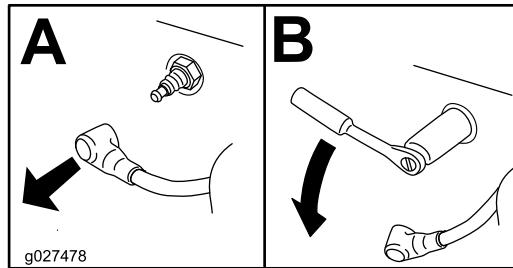

Figure 39
- Remove the spark plug(s) as shown in Figure 39.